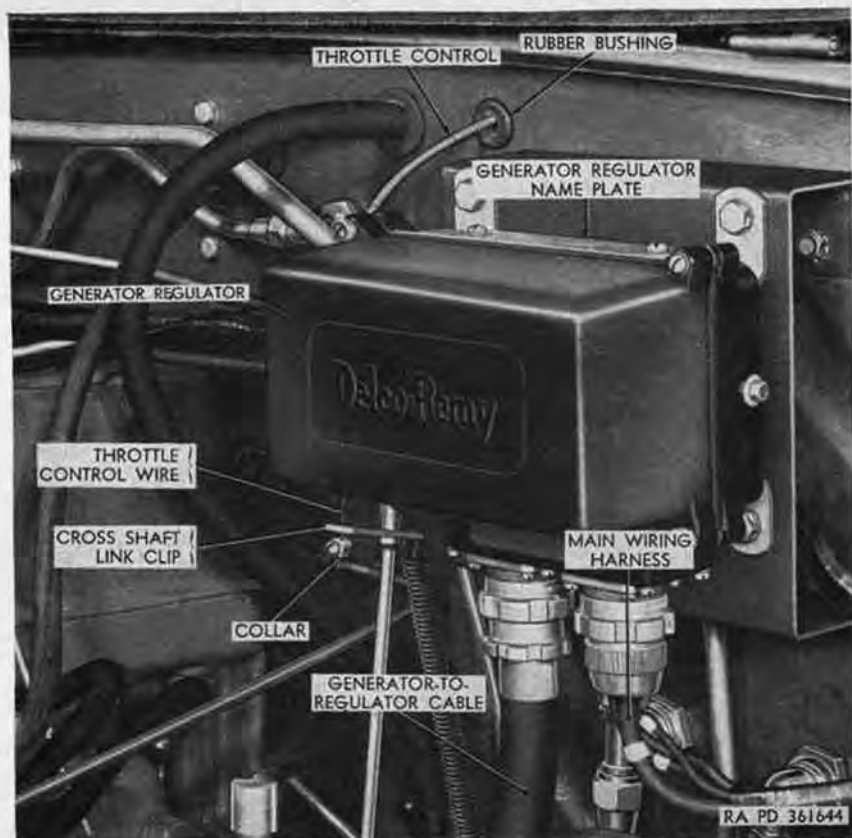

Figure 160. Front view of top right section of cab cowl.
- (2) *Adjustment.*
- (b) Loosen screw securing collar (fig. 160) to throttle control wire.
- (c) Position collar on throttle control wire (fig. 160) so that clearance of approximately one-eighth inch is maintained between top surface of collar and underside of cross-shaft-link clip when throttle valve plate lever (G, fig. 119) is in the idling position and the throttle control knob (T, fig. 65) is in against the instrument panel as far as it will go.
- (3) *Removal.*
- (a) Loosen screw securing collar (fig. 160) to throttle control wire and remove collar.
- (c) Pull free end of throttle (fig. 160) through rubber bushing in cab cowl and into cab.
- (b) Push free end of throttle control (fig. 160) through bushing in cab cowl.
- (c) Position control under throttle-control-supporting-bracket clip (S, fig. 155) push control wire (fig. 160) through hole in forward end of cross-shaft-link clip, and tighten nut and bolt securing clip to supporting bracket.
- (d) Install collar (fig. 160) on control wire, and adjust throttle control ((1) above).